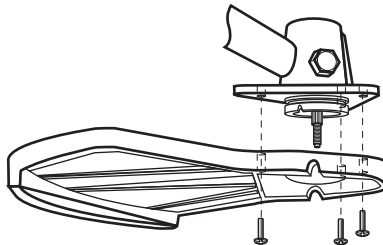

Fig. 4a
- Place the cutting guard (B3) onto the support and fix it with the screws by using the Torx screwdriver (E3). Pay attention to the alignment of the cutting guard. (See Fig. 4a)